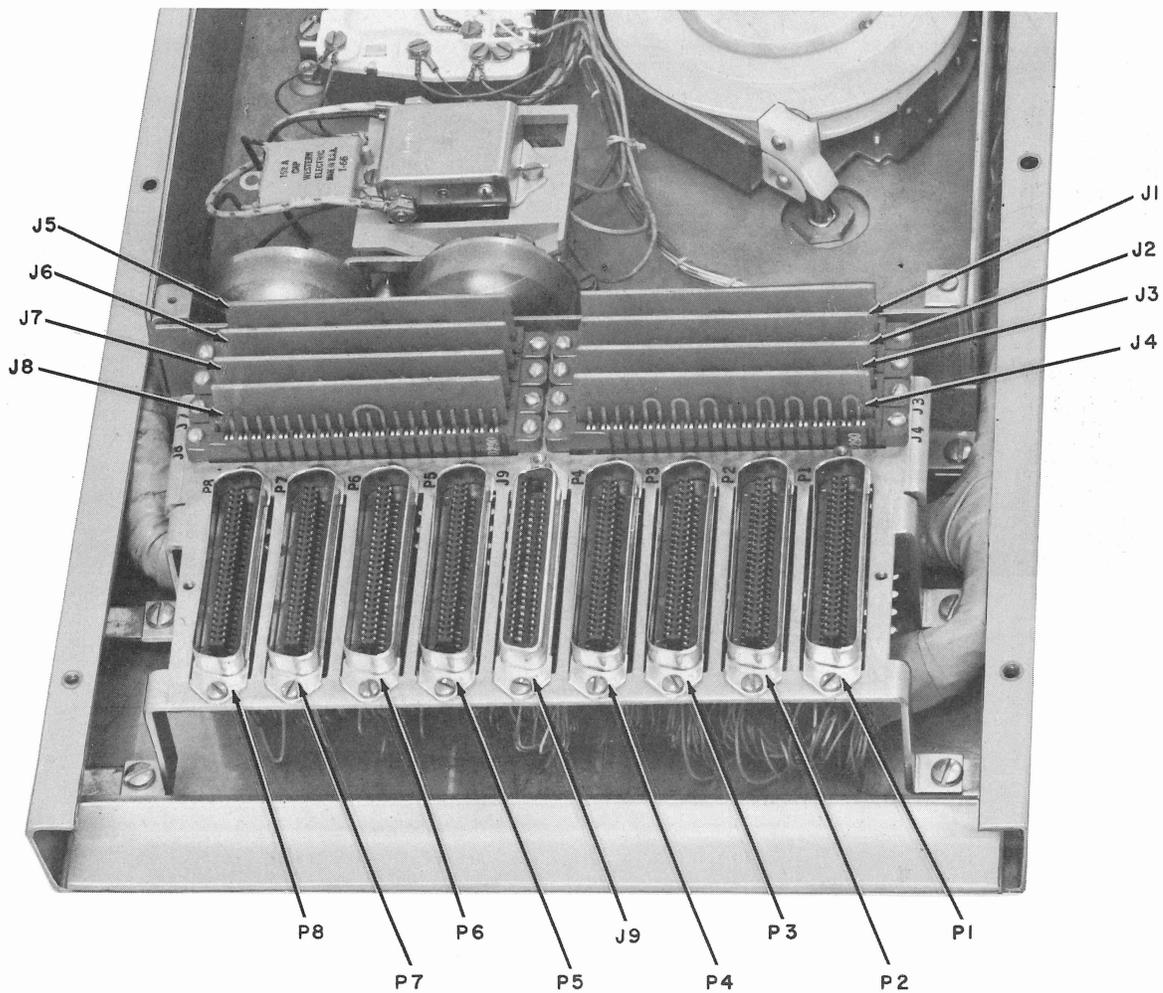
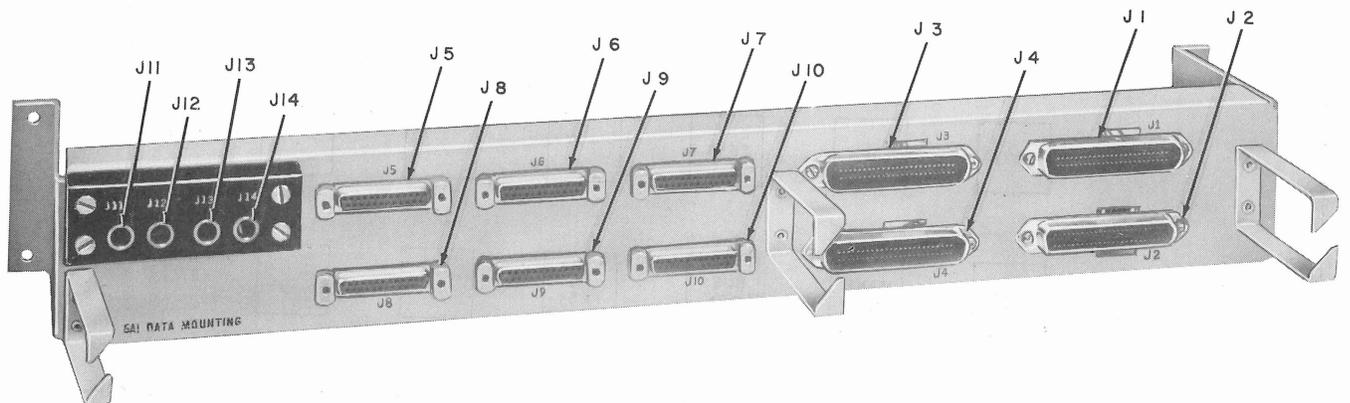
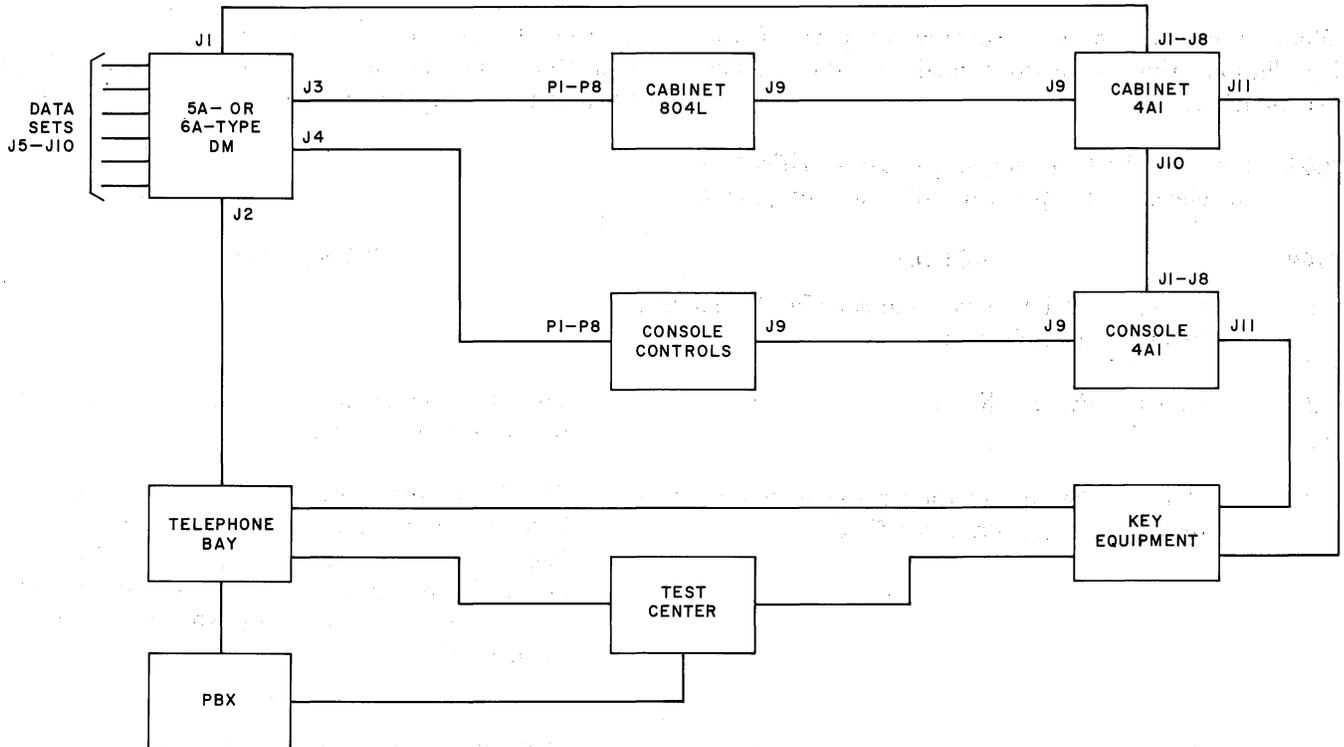

Fig. 4—Data Auxiliary Set 804L-Type, Identification of Connectors
Fig. 7—6A-Type Data Mounting, Identification of Connectors
Fig. 9—Test Connections For Testing the Data Set Field Keys and Associated Circuits For Switched Access and Private Line Data Sets
**2.05** Fig. 4 through Fig. 7 show the physical locations and designations of the connectors referred to in the following text and connection diagrams.
**3.08** When this method of testing is to be used, six previously tested data sets known to be good are required. These sets are connected to the data mounting which is to be tested. The data mounting is then connected to the 804L and associated equipment as shown by Fig. 9 and Table A. Refer to the previously referenced figures (Fig. 4 through Fig. 7) for the locations of
the connectors listed in Table A and shown by Fig. 9. Use the cords provided for the installation of this equipment to make these required connections. After completing the applicable test connections for the column of keys to be tested, perform the applicable step-action-verification procedure. A different step-action-verification procedure is used for switched access and private line equipment; however, the connections shown by Fig. 9 and Table A are the same for either type of data set.
**3.10** The following step-action-verification checks the operation of the equipment associated with the data sets used for private line service. This test is performed on private line equipment only and requires six previously checked private line data sets known to be good. The connections required to check the data mountings and associated equipment are given by Table A and Fig. 9. Refer to the previously referenced figures (Fig. 4 through